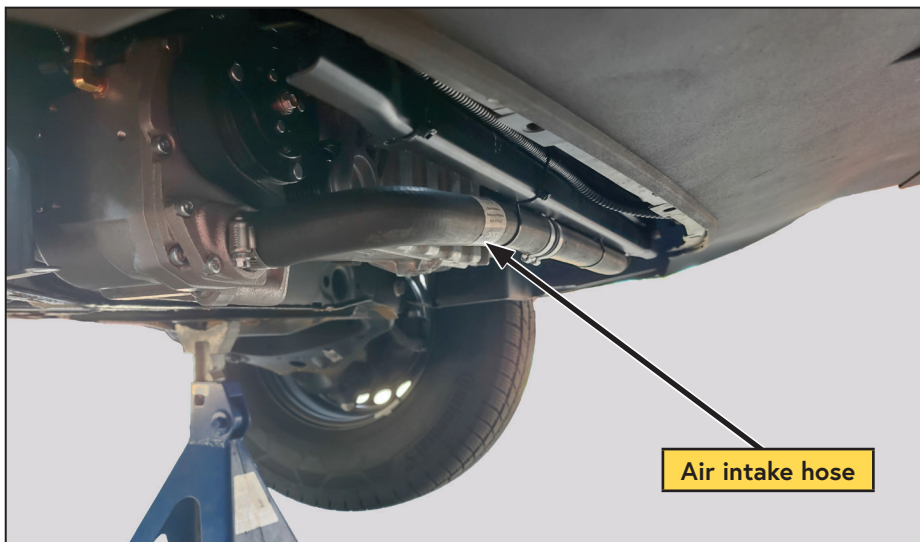

Figure 20 — Install remote intake hose
- Using the supplied gear clamps, secure the air intake hose to the compressor (Figure 20).
- Route the air intake hose along the cross member below the radiator, up to the VMAC air filter assembly (Figure 20).